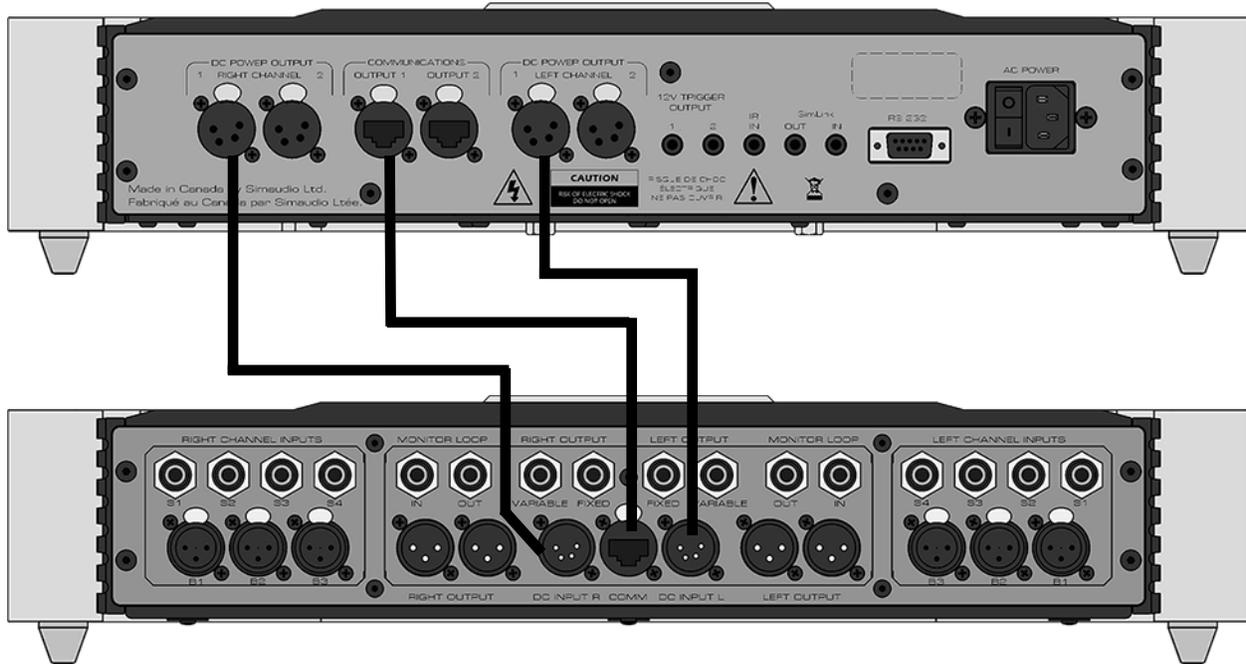

Figure 1: Connecting the MOON 850P Preamp (bottom) and 850P Controller (top)
There are three (3) connections that must be made between the **MOON 850P** Preamp's chassis and its separate controller chassis as shown above in Figure 1.